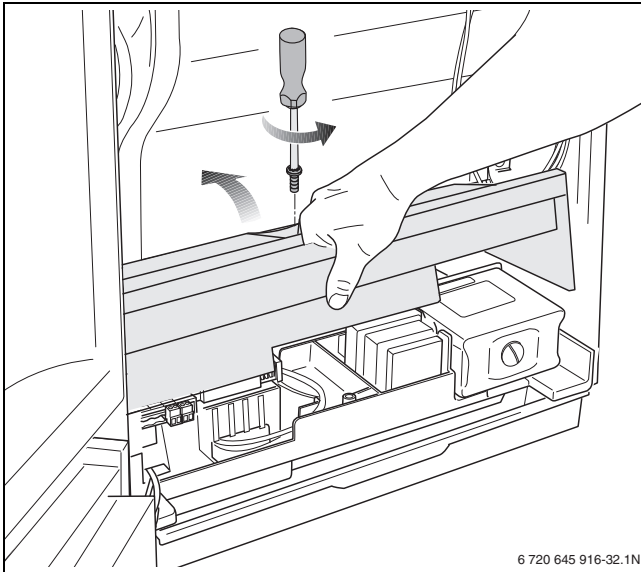

Fig. 36 Removing the cover
- Remove the screw to release the cover over the electrical connections and pull the cover upwards (→ fig. 36).